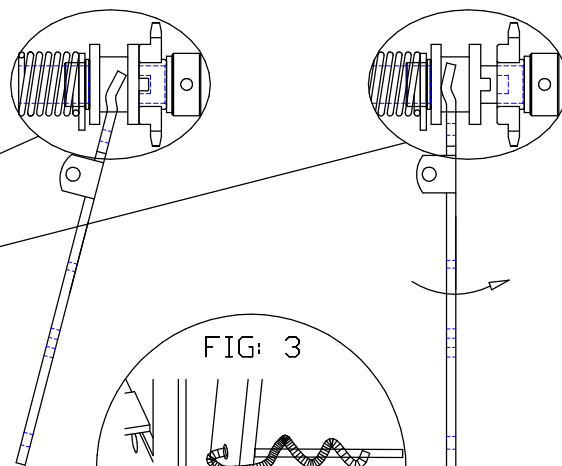

FIG: 3
6. Be sure that the egress handle is flush in the egress box to pick up any slack on the cable. Using a pair of needle nose pliers bend the cable around the disconnect arm and wrap back around itself with two loops (Fig. 3).